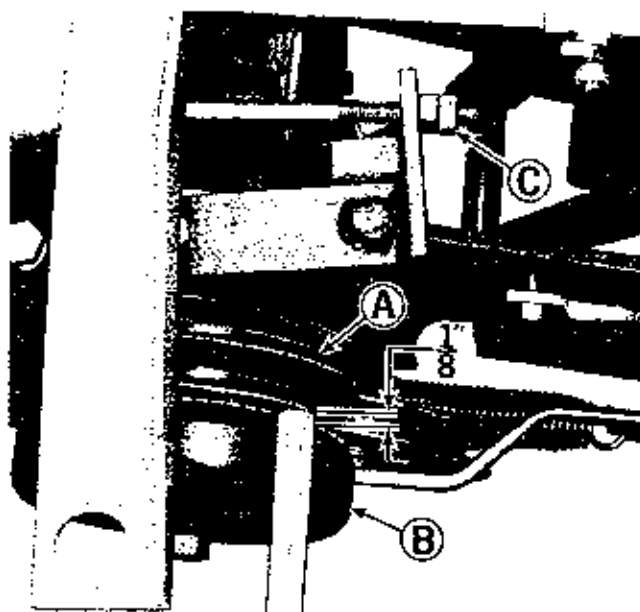

Figure 16. Power take off clutch.
See figure 16. The power take off clutch is properly adjusted when pulley (A) moves  $1/8"$  when the power take off control lever is engaged and disengaged. If adjustment is required, proceed as follows: